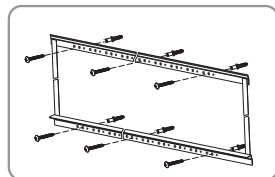

Figure 26
- b. Concrete wall installation: Follow the screen installation step 3 and drill six proper holes through the concrete wall with electrical drill, and then nail the screw anchors into the done holes on the wall. Fix the  $\phi 5 \times 40$  mm tapping screws to the holes on the wall through the holes in the top and bottom installation bars, three sets of screws on each bar. ( Figure 26 )